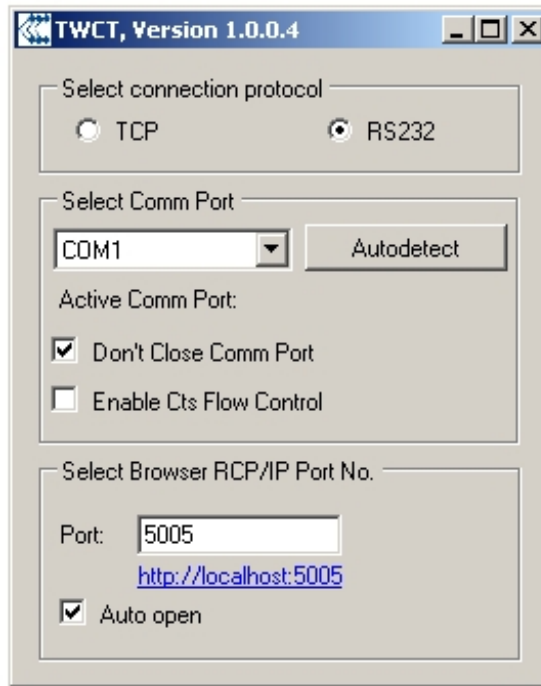

Figure 7.3.2 TWCT.EXE software in RS232 mode
3. Select RS232 mode (see Fig. 7.3.2)